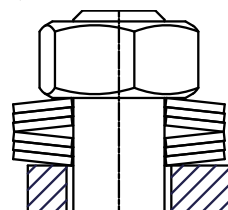

Fig.6-3 Position of the disc springs.
4. Fit and mount the gland and disc springs and the nuts. Please observe the position of the disc springs, see illustration (→ Fig.6-3).
1. Undo the screws (→ Fig.6-3/2) and remove the cover (→ Fig.6-3/1).
2. Remove the cover seal (gasket) (→ Fig.6-3/3) from the cover and the valve body.